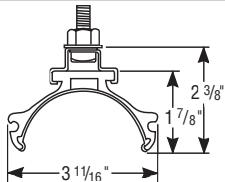
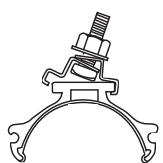

Figure 2
Figure 3
1. **Clamps** — Heaters are mounted by means of the mounting clamp and $\frac{3}{8}$ " bolt assembly which is used as shown in Fig. 2. Clamp assembly may be attached to heater by sliding over end or by snapping over top of extruded frame section at any point along its length (see Fig. 3). For proper heater support, the maximum distance between clamps must not exceed 48". On extra-long heaters, more than two clamps are furnished.